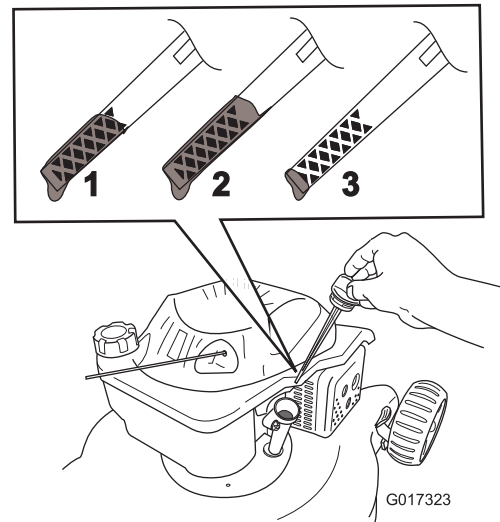

**Figure 21**
3. Tip the machine onto its side, with the dipstick down, to drain the used oil out through the oil-fill tube (Figure 21).